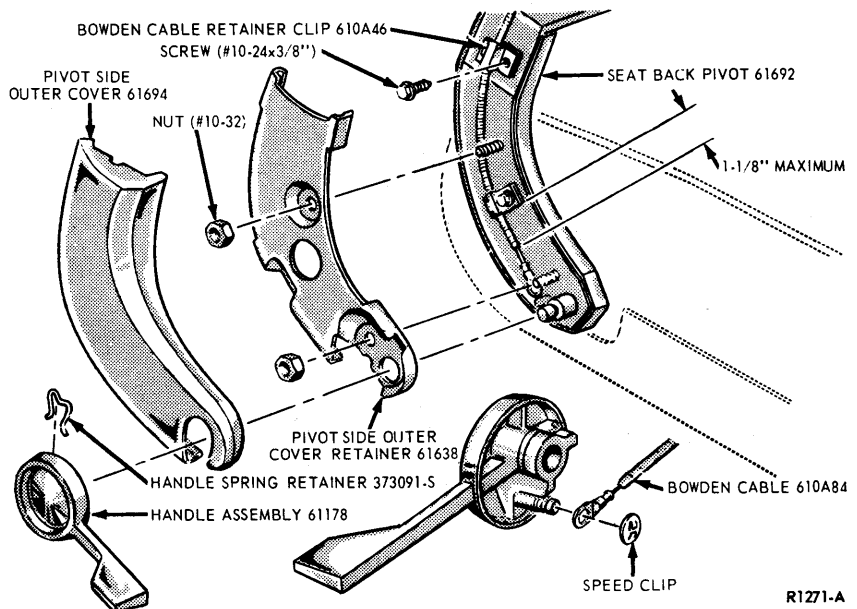

FIG. 3—Seat Adjusting Handle and Side Pivot—Disassembled
3. Remove the adjusting handle spring retainer and pull the handle off its shaft. Remove the speed clip which retains the control cable end to the adjusting handle (Fig. 3) and disengage the control cable end to the adjusting handle (Fig. 3) and disengage the control cable from the adjusting handle.
4. Unsnap the pivot side outer cover from the pivot side outer cover retainer (Fig. 3).
5. Remove the pivot side outer cover retainer attaching nuts (Fig. 3) and rotate the retainer clockwise sufficiently to gain access to the cable retaining clips.
6. Loosen the two retainer clip screws and disengage the control cable from the seat back pivot (Fig. 3).
3. Remove the adjusting handle spring retainer and pull the handle off its shaft. Remove the speed clip which retains the control cable end to the adjusting handle (Fig. 3) and disengage the control cable from the adjusting handle.